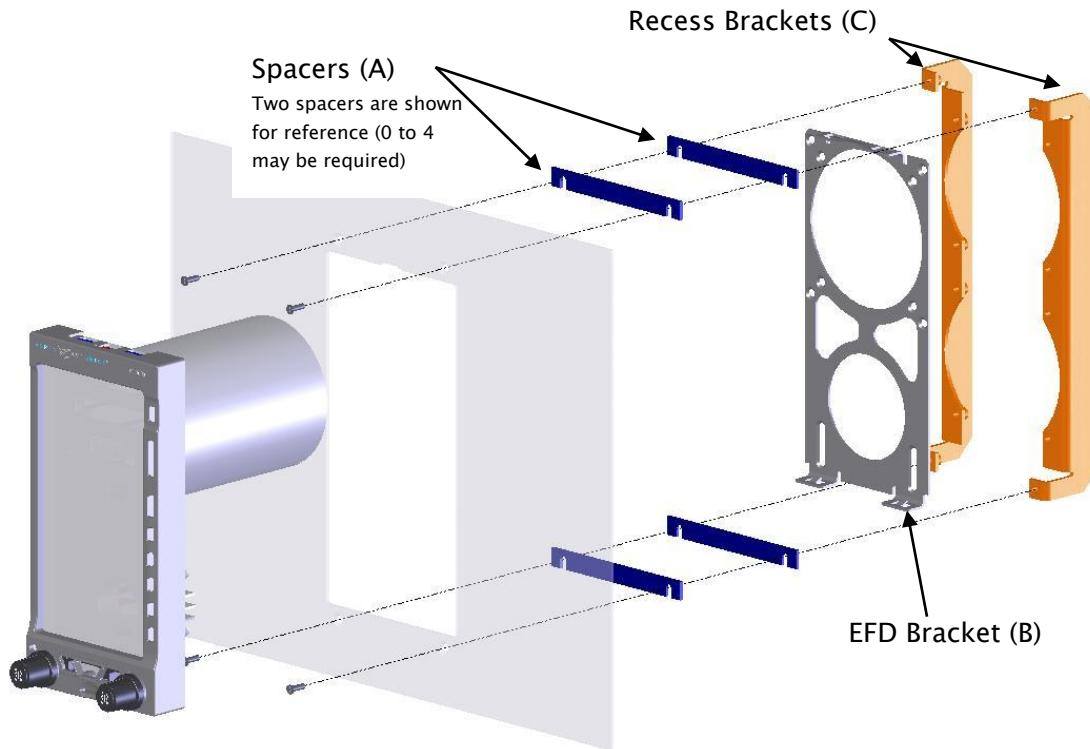

Figure 6-4: Single Display Recess Mount Bracket Installation
6.8.3 Recess Mounting the EFD as per Figure 6-4
STEP 6 – Install the Recess Mount Brackets and Hardware (Use Figure 6-4 for reference)
- 1) Fit the spacers (A) between instrument panel and recess brackets (C) as shown in Figure 6-4, using four MS24693-S26 6-32 X 3/8 machine screws or pan head screws may be used if that look is desired. Tighten all four mounting screws and nuts to 12 in-lbs anchoring the brackets to the panel.